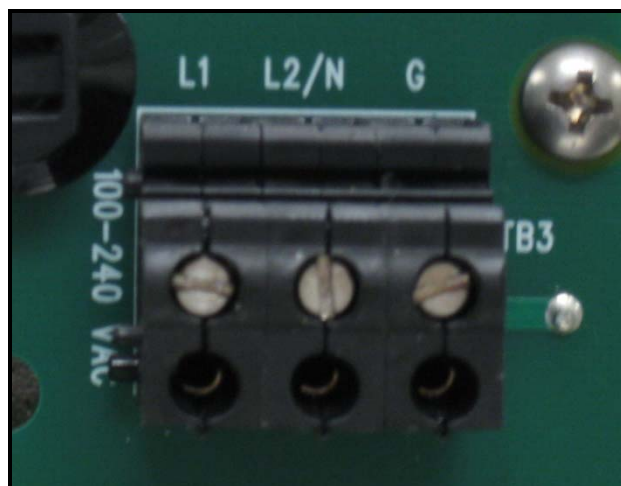

Figure 7: Power Terminal Block
4. Run the AC power connections to the Power Terminal Block shown in Figure 7. It is recommended to use 12-18 AWG (3.3 - 0.82 mm²) power wiring.